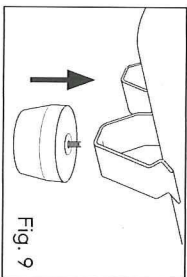

Fig. 9
3. Insert the supporting foot bolt up through the hole in one of the front brackets, on the underside of the tank (Fig. 9).